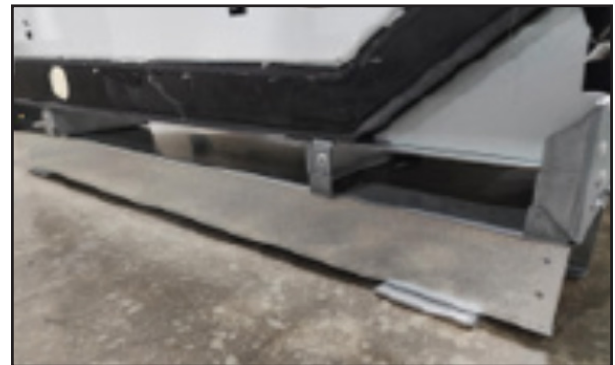

**Fig. 36 Hat-section and front fastening plates**
3. Locate the Hat-sections and the Front Fastening Plates enclosed in the case (Fig. 36).